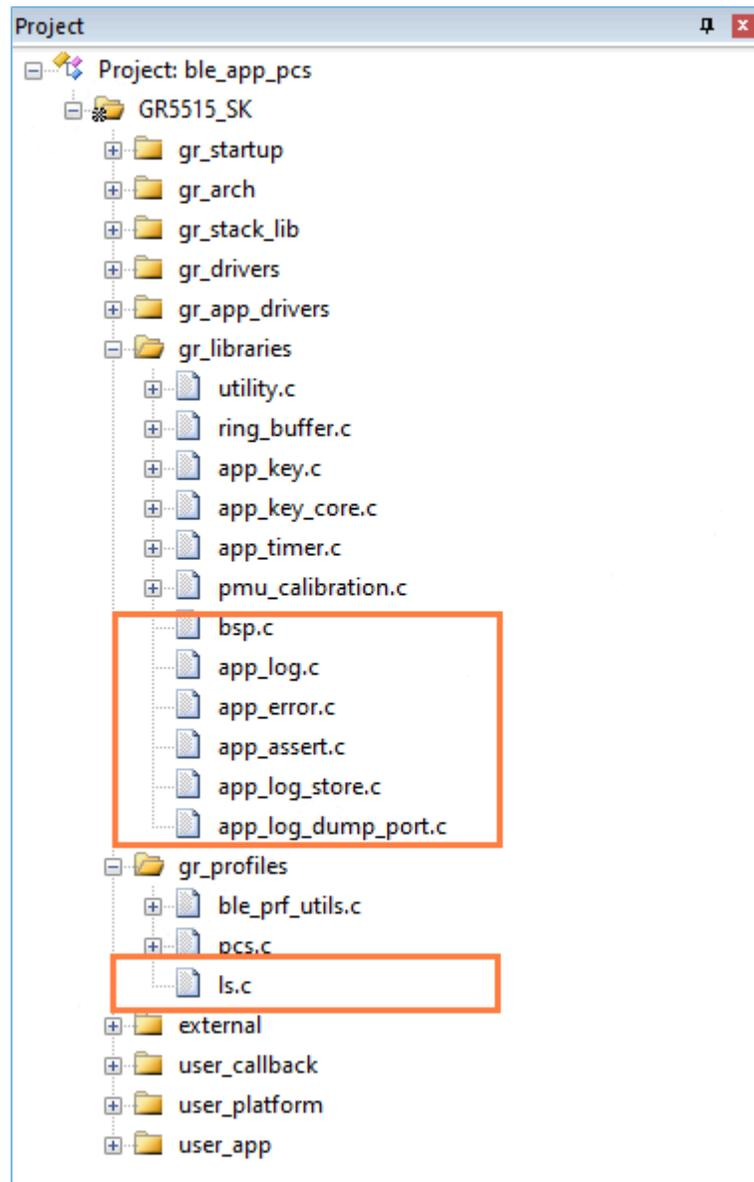

Figure 3-1 Adding source files into the project
- (1). Select and right-click gr_libraries. Choose **Add Existing Files to Group 'gr_libraries'** to add *app_error.c*, *app_assert.c*, *bsp.c*, *app_log.c*, *app_log_store.c*, and *app_log_dump_port.c* to gr_libraries, as shown in Figure 3-1.